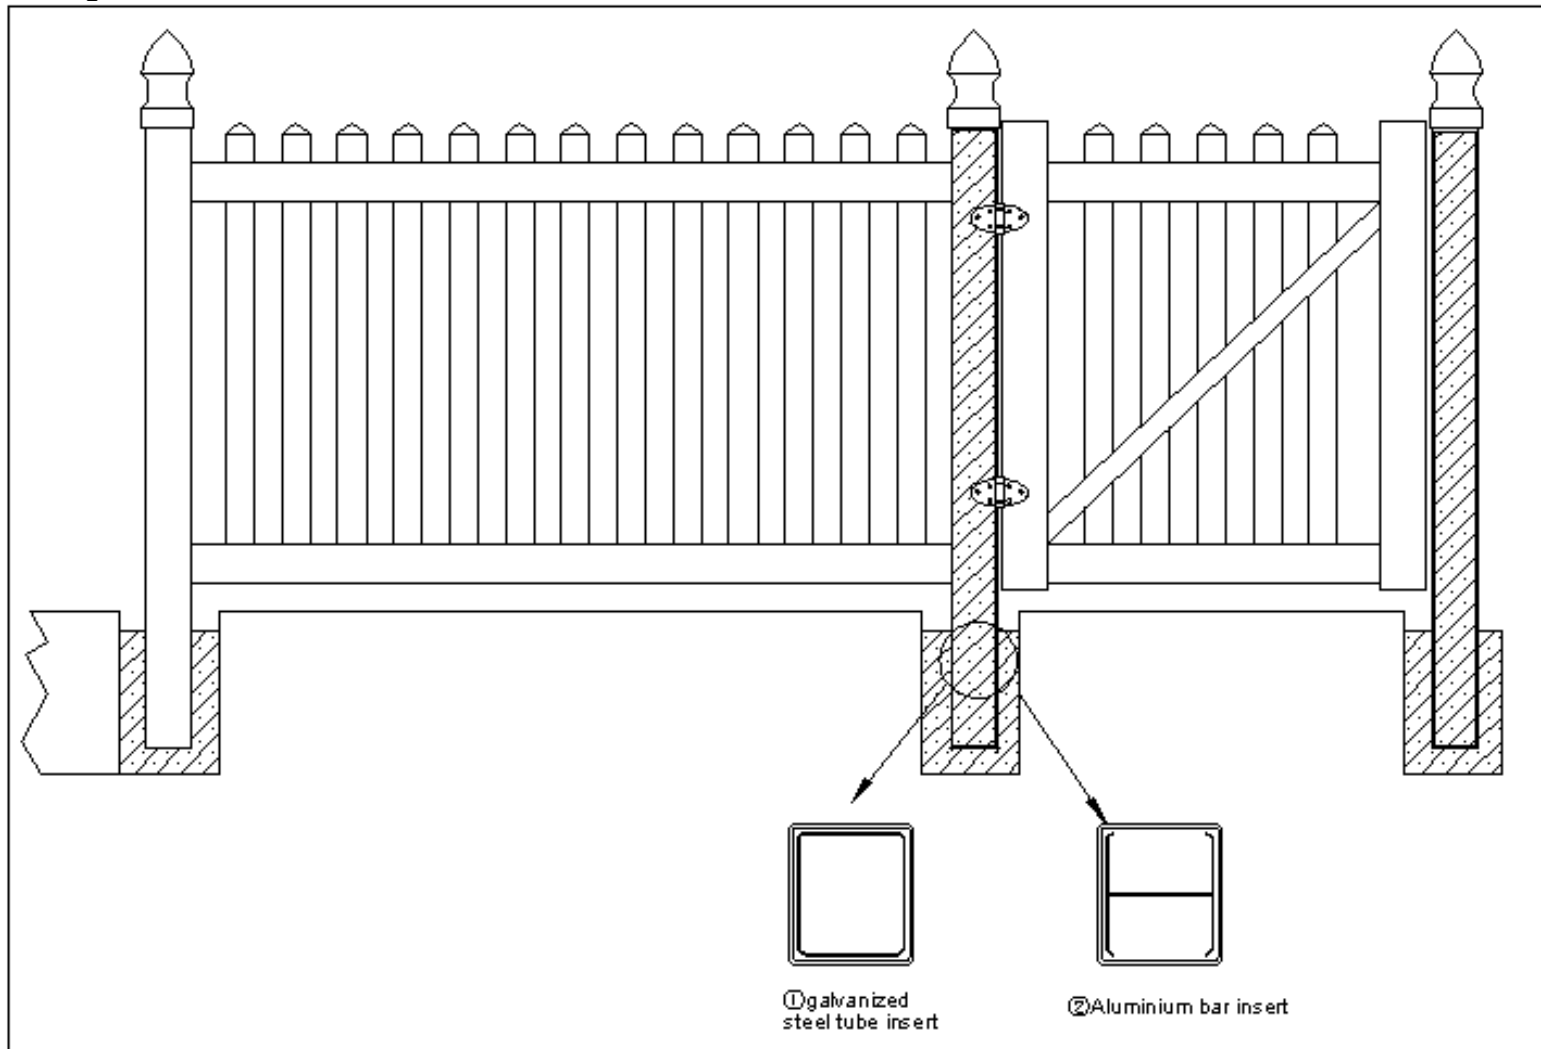

Fig.06
Install post caps,Caps may be secured with glue, silicone adhesive or #8 x 3/4" screws. See fig.06
- See fig.06